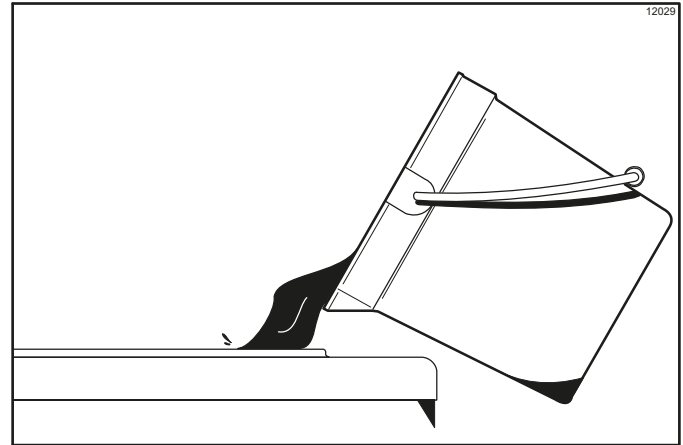

Figure 6-33
2. Pour sanitizing solution over all the parts in the bottom of the mix hopper and allow it to flow into the freezing cylinder. (See Figure 6-33.)